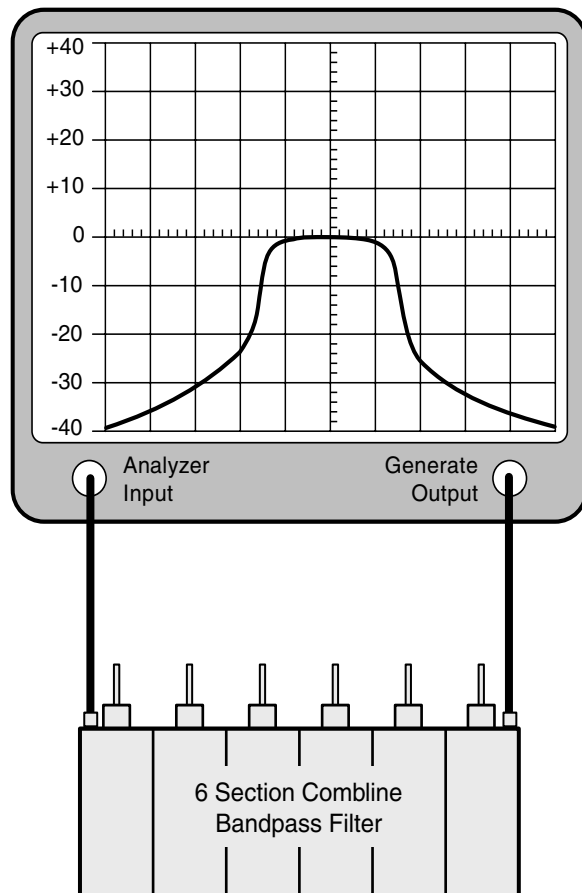
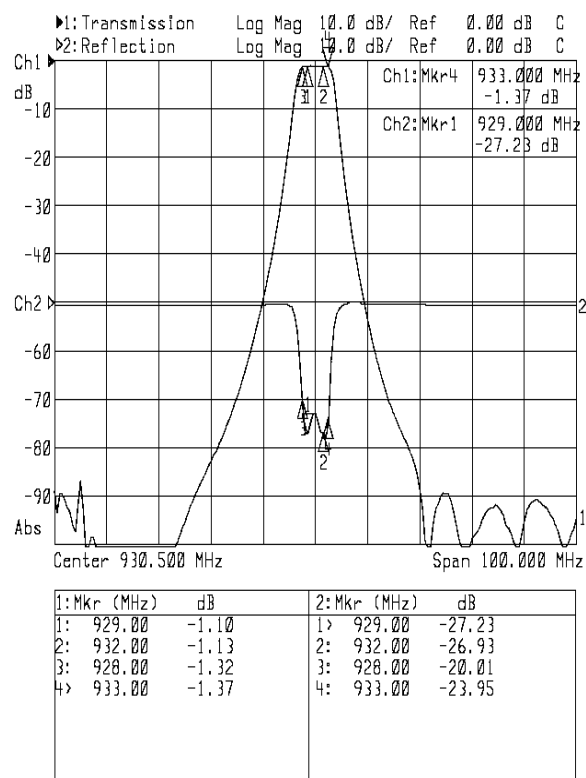

Figure 1: Tuning a combline filter.
Figure 2A: Preselector response curve shown at 10 MHz per/division.
familiar with the use of the test equipment. Figures 1 and 3 illustrate the use of an IFR A-7550 spectrum analyzer/tracking generator combination for filter tuning. Figures 2A and 2B show the preselector response curves displayed on a network analyzer. Listed below is a typical combination of equipment:
- 1) Connect the test equipment to the filter assembly as shown in figure 1.
shown in figures 2A (10 MHz per/division) and 2B (2 MHz per division).